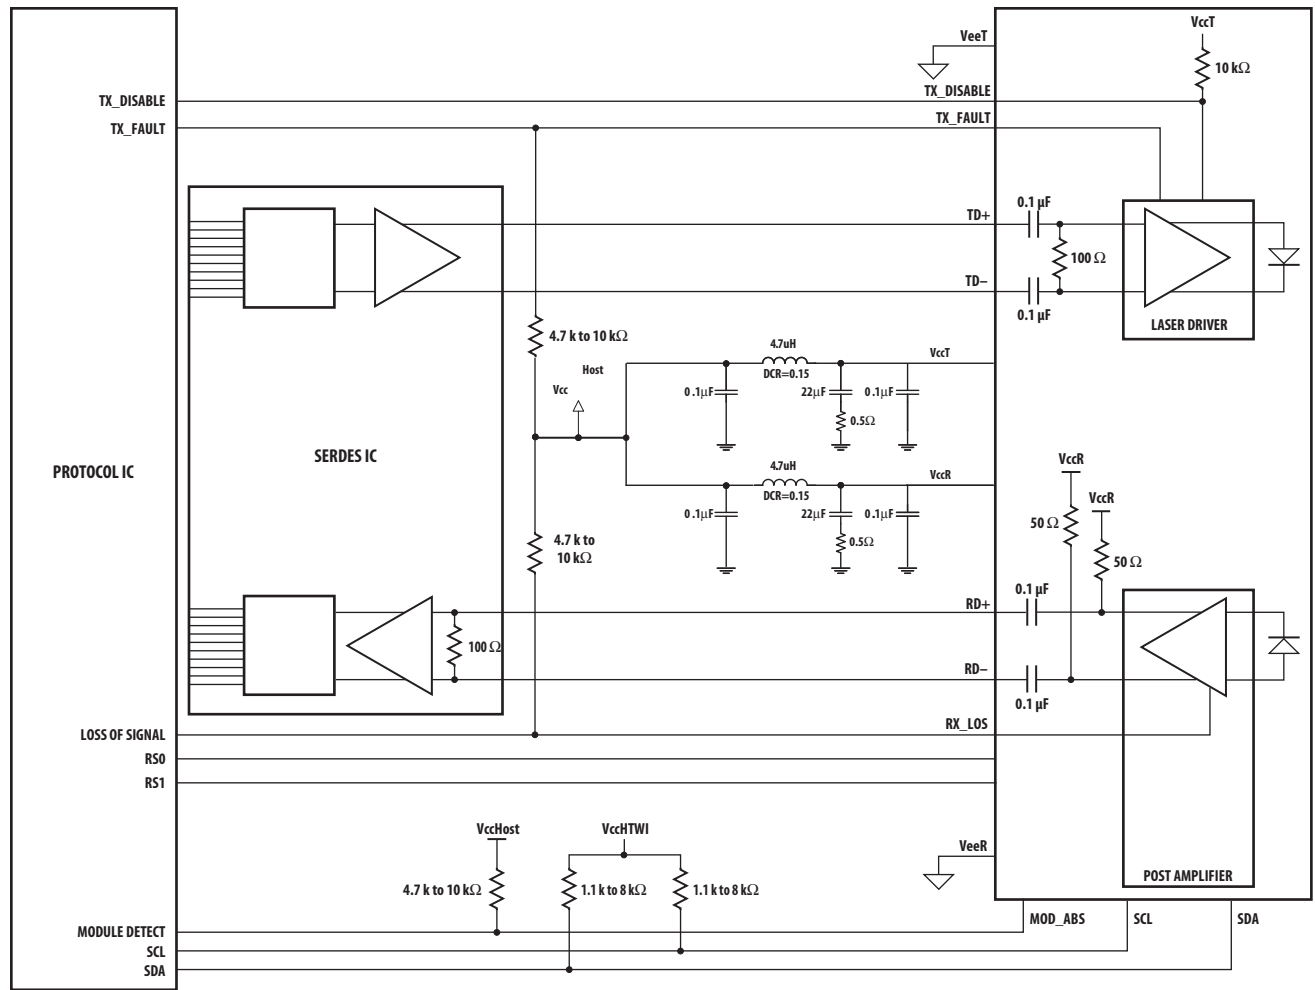

Figure 2. Typical application configuration
Figure 2 depicts the recommended interface circuit to link the AFCT-701ASDZ to supporting physical layer ICs. Timing for the dedicated SFP+ control signals implemented in the transceiver are listed in Figure 5.
2. This is an open collector/drain output that on the host board requires a 4.7 k Ω to 10 k Ω pullup resistor to VccHost. See Figure 2.